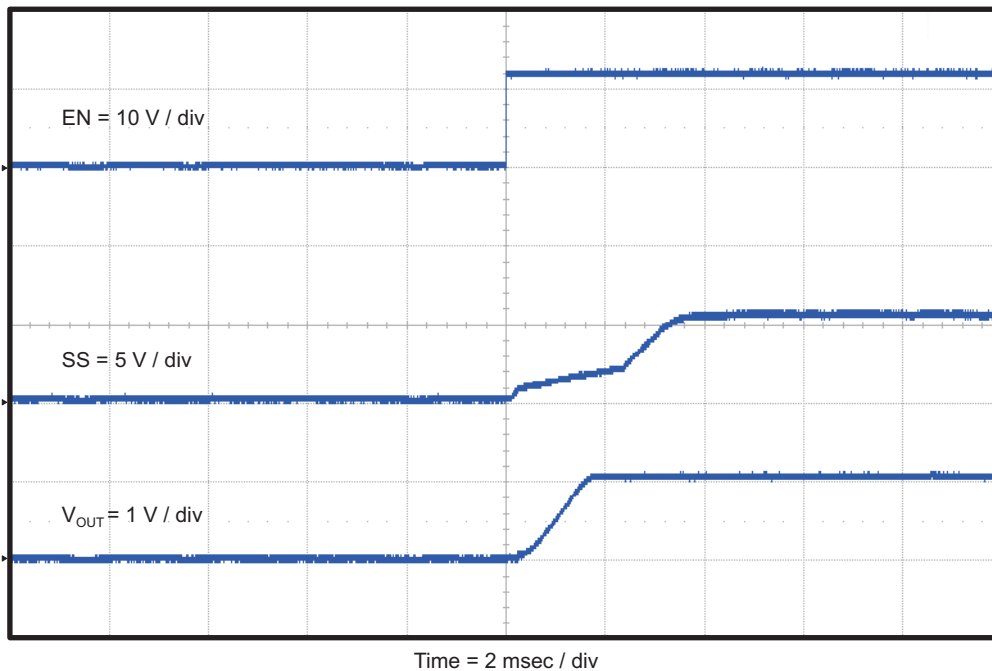
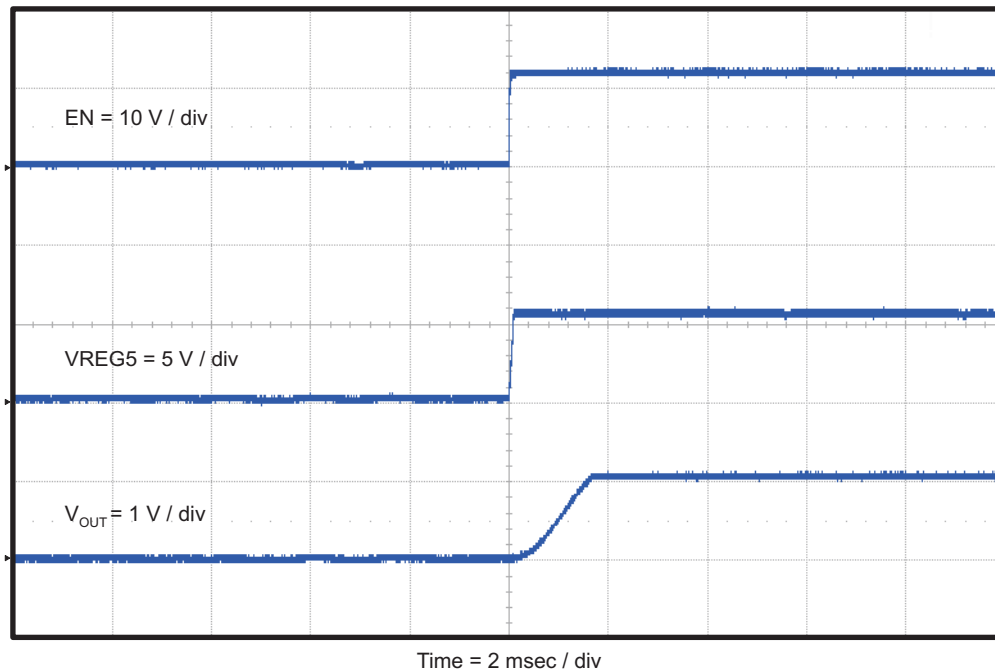

Figure 10. TPS54229EVM-056 Start-Up Relative to EN With SS
Figure 11. TPS54229EVM-056 Start-Up Relative to EN With VREG5
The TPS54229EVM-056 start-up waveforms relative to enable (EN) are shown in Figure 10 and Figure 11.